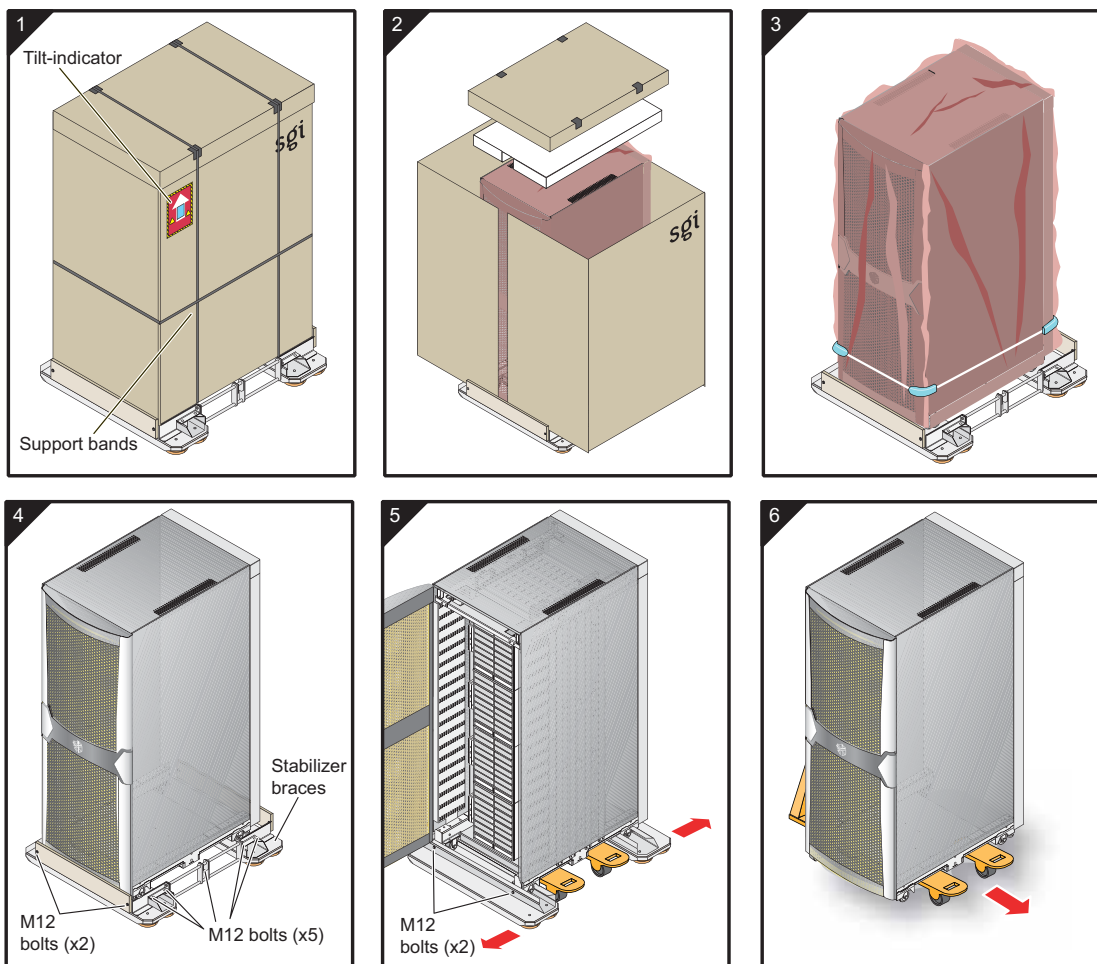

Figure 1-1 Unpacking the Rack
2. Carefully cut the three support bands, refer to Figure 1-1 (1).
3. Remove top corrugated cap, two corrugated sleeve panels and cushioned top pad surrounding the machine (2).
4. Remove the cover bag and bungee cushion from the rack (3).
5. Remove two M12 bolts (3/4-in socket) holding base boards at both ends of machine (4).